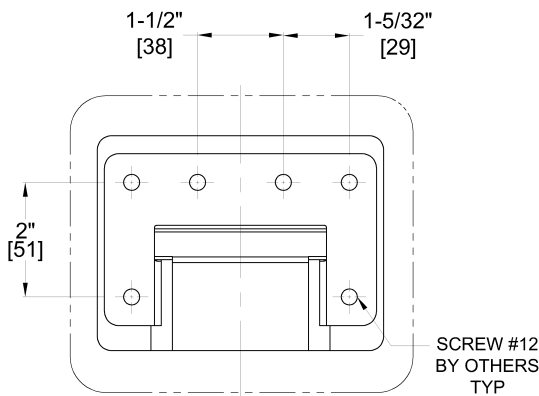
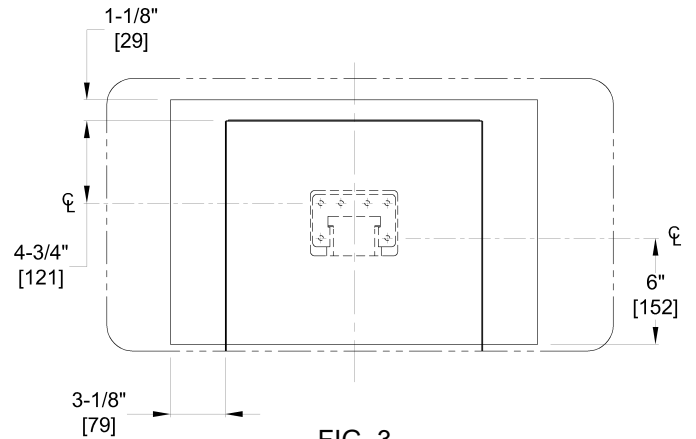
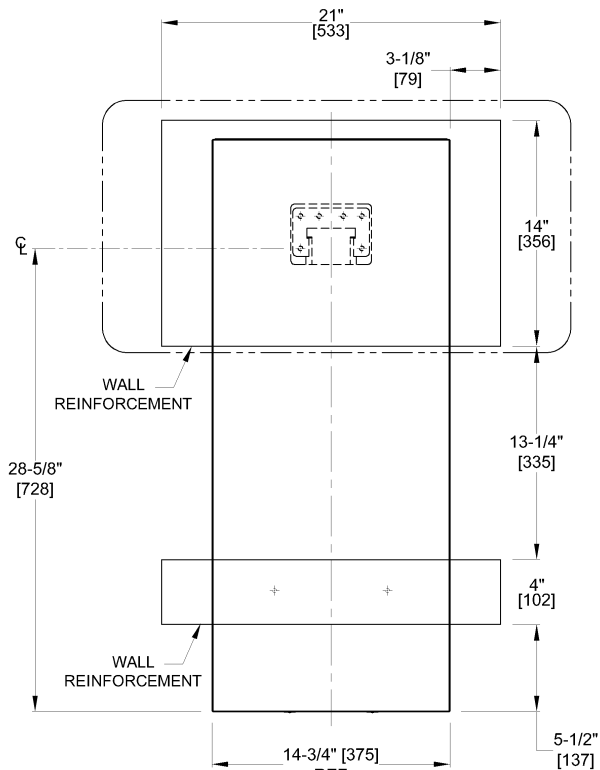
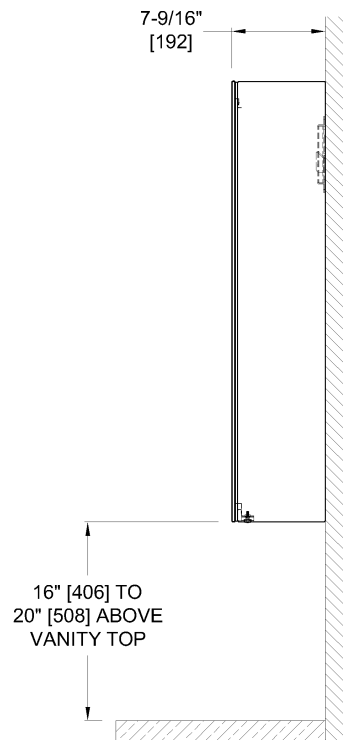

FIG. 1
FIG. 3
FIG. 2
FIG. 4
Install the mounting plate on wall using six (6) № 12 self-threading, pan-head screws (by others) (Fig. 1) into appropriate anchoring and wall reinforcements (Fig. 2). Hang cabinet on wall mounting hanger hook (Fig. 3). Suggested mounting height is to position bottom of module 16" [406] to 20" [508] above vanity top so bottom aligns with Model №'s 0661-X or 0663-X on either side of Filler Module (Fig. 4). Install two (2) №12 self-tapping locking screws (by others) into appropriate anchoring to prevent unit from being lifted off hanger hooks (Fig. 2).